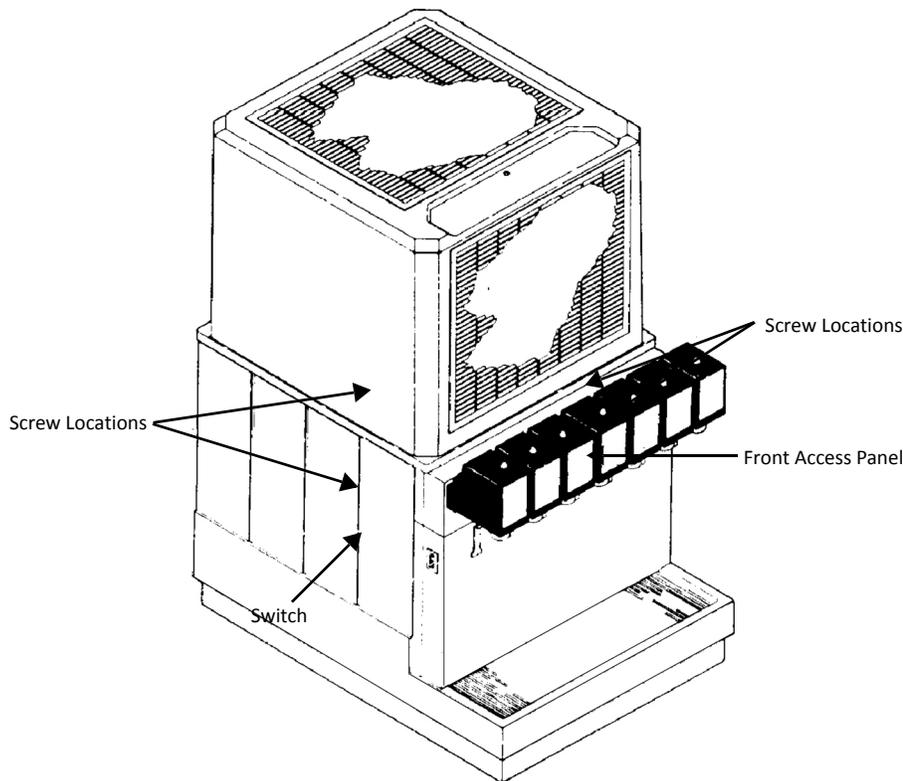

Figure 1. Switch Location
1. Remove the 4 screws securing the lower front access panel. These screws are located on each side of the Vanguard at the front (See Figure 1)